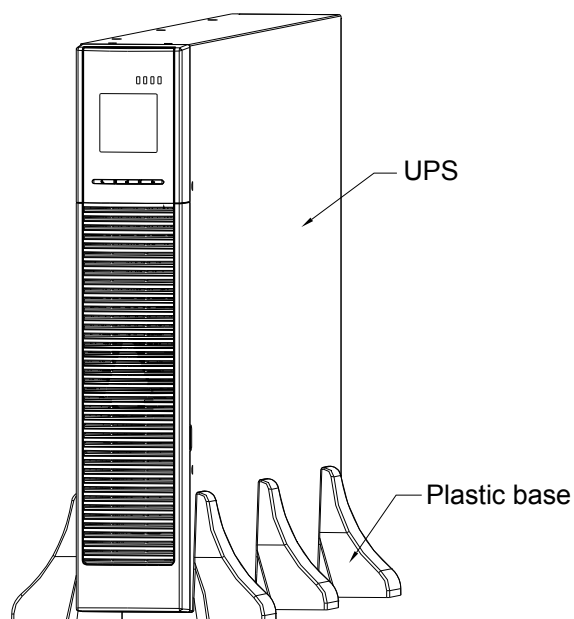

FIG. 11 The installation for UPS and battery box
2. Install the base, then place the On-Line UPS on the base one by one as Fig.11 shows.